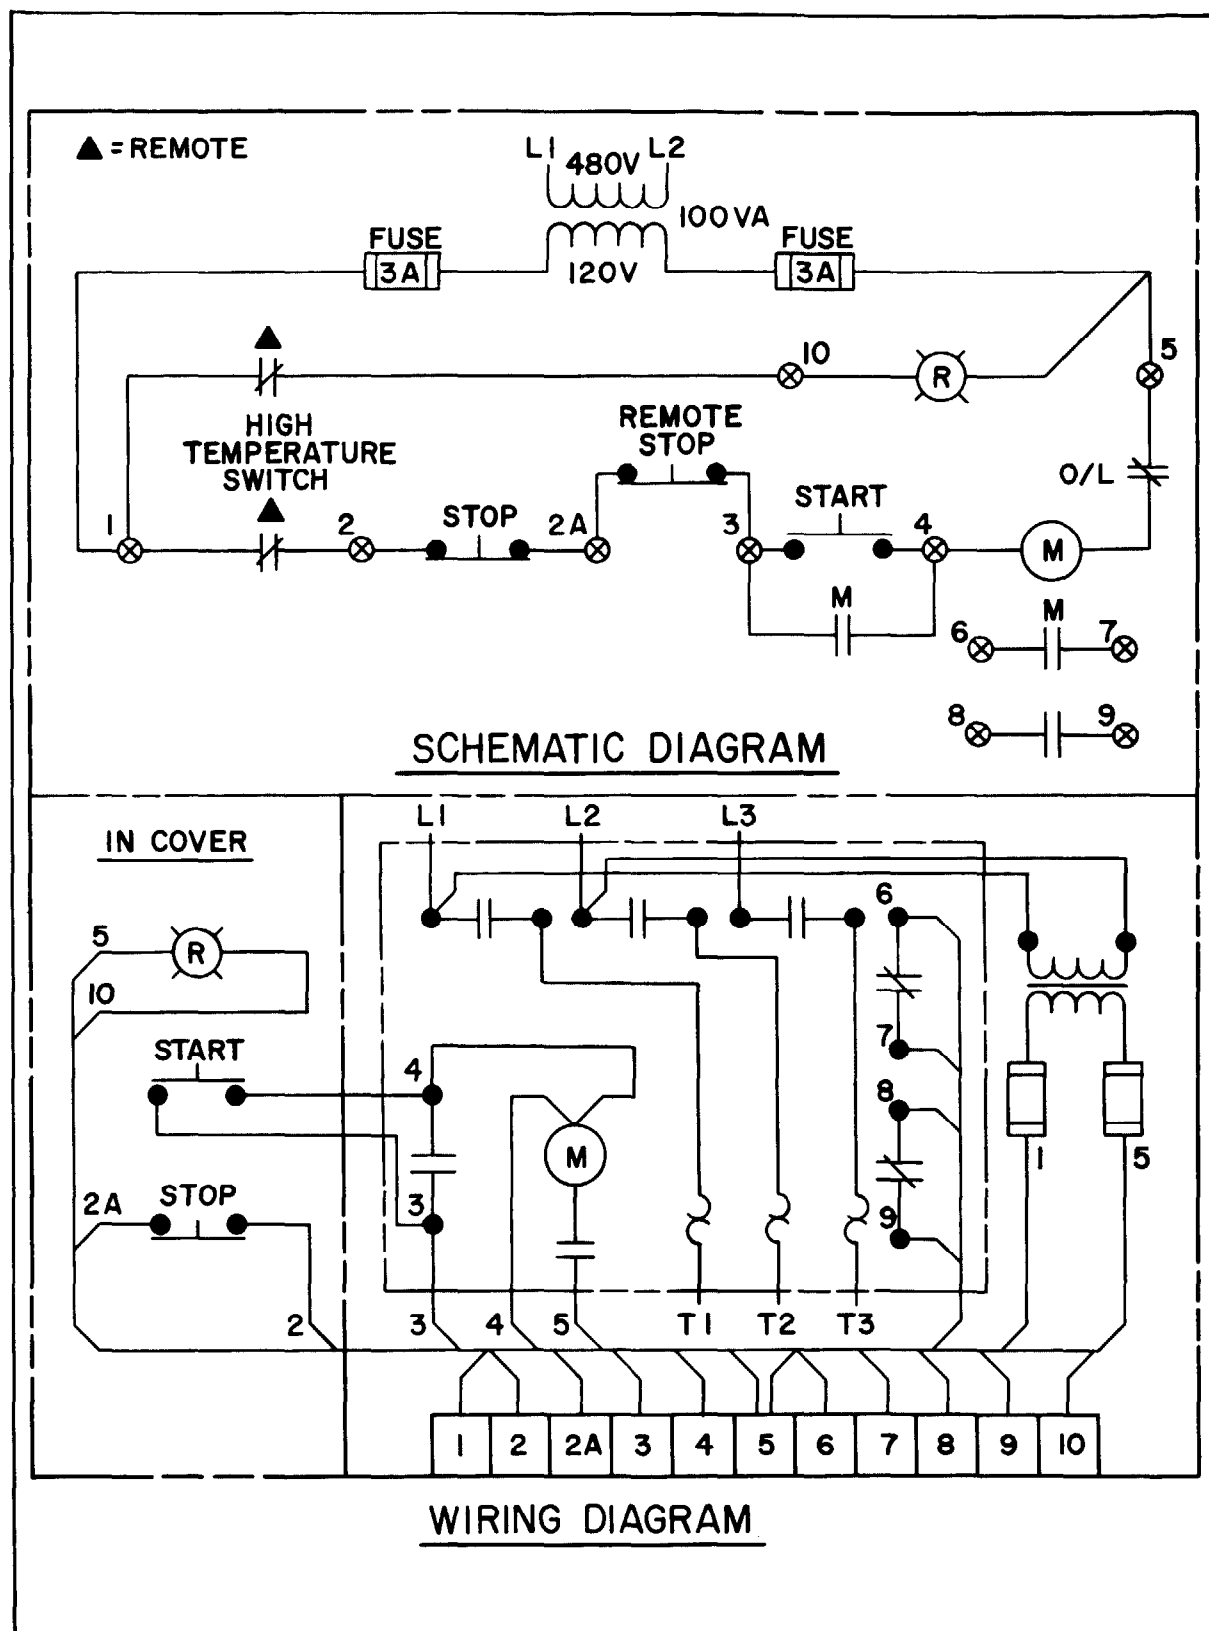

FIGURE 7-4
(1) Remove the two aft diffusers from the end of each cargo tank distribution manifold.
(2) Remove the metal orifice ring at the base of the Discfuser.
(3) Insert a 6 inch piece of 3/4" OD plastic tubing and seal in place.
(4) Replace the Discfusers. The tube in the Discfuser will discharge accumulated water from the bottom of the tank aeration manifold.
7.5.4 AIR COMPRESSOR CONTROLLER. Figure 7-4 shows the schematic and wiring diagram for the Air Compressor Controller. The high temperature switch will stop the motor when the compressor has overheated.